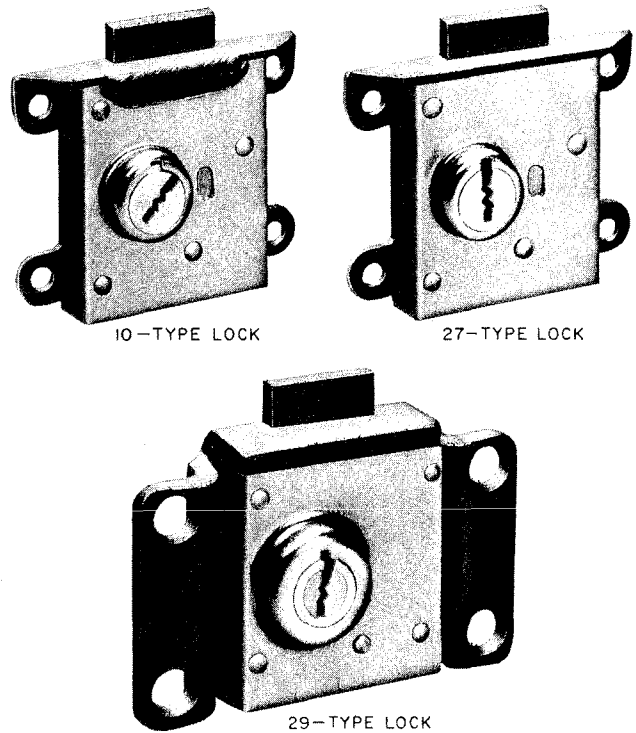

Fig. 8—Upper Housing And Cover Assembly Locks
3.02 There are three current models of locks available for upper housings and cover assemblies; 10-type, 27-type, and 29-type (Fig. 8). Each of these locks is a lever tumbler type using a corrugated key.